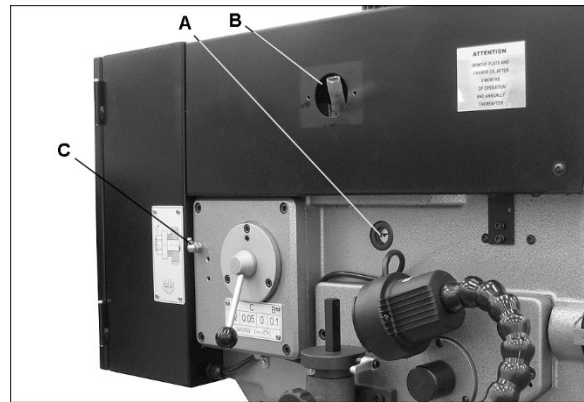

Figure 10-1: oil fill tube
- a. Periodically check oil level in sight gauge (A, Figure 10-1).
- c. To add oil, remove oil fill tube cover plate. Pull fill tube out of hole in head cover (B).